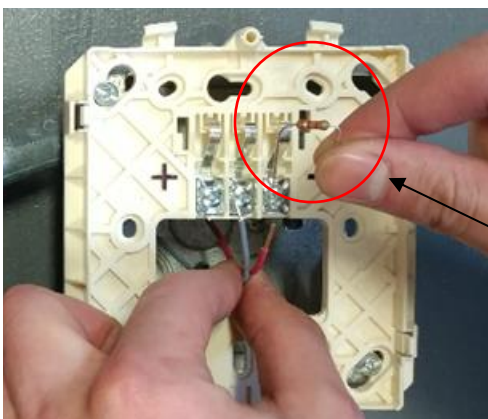

Figure 13.3
5. See **Figure 13.3** Disconnect **RED** and **GRAY** wires and remove end-of line resistor from base plate. **IMPORTANT: DO NOT DISCARD END OF LINE RESISTOR**